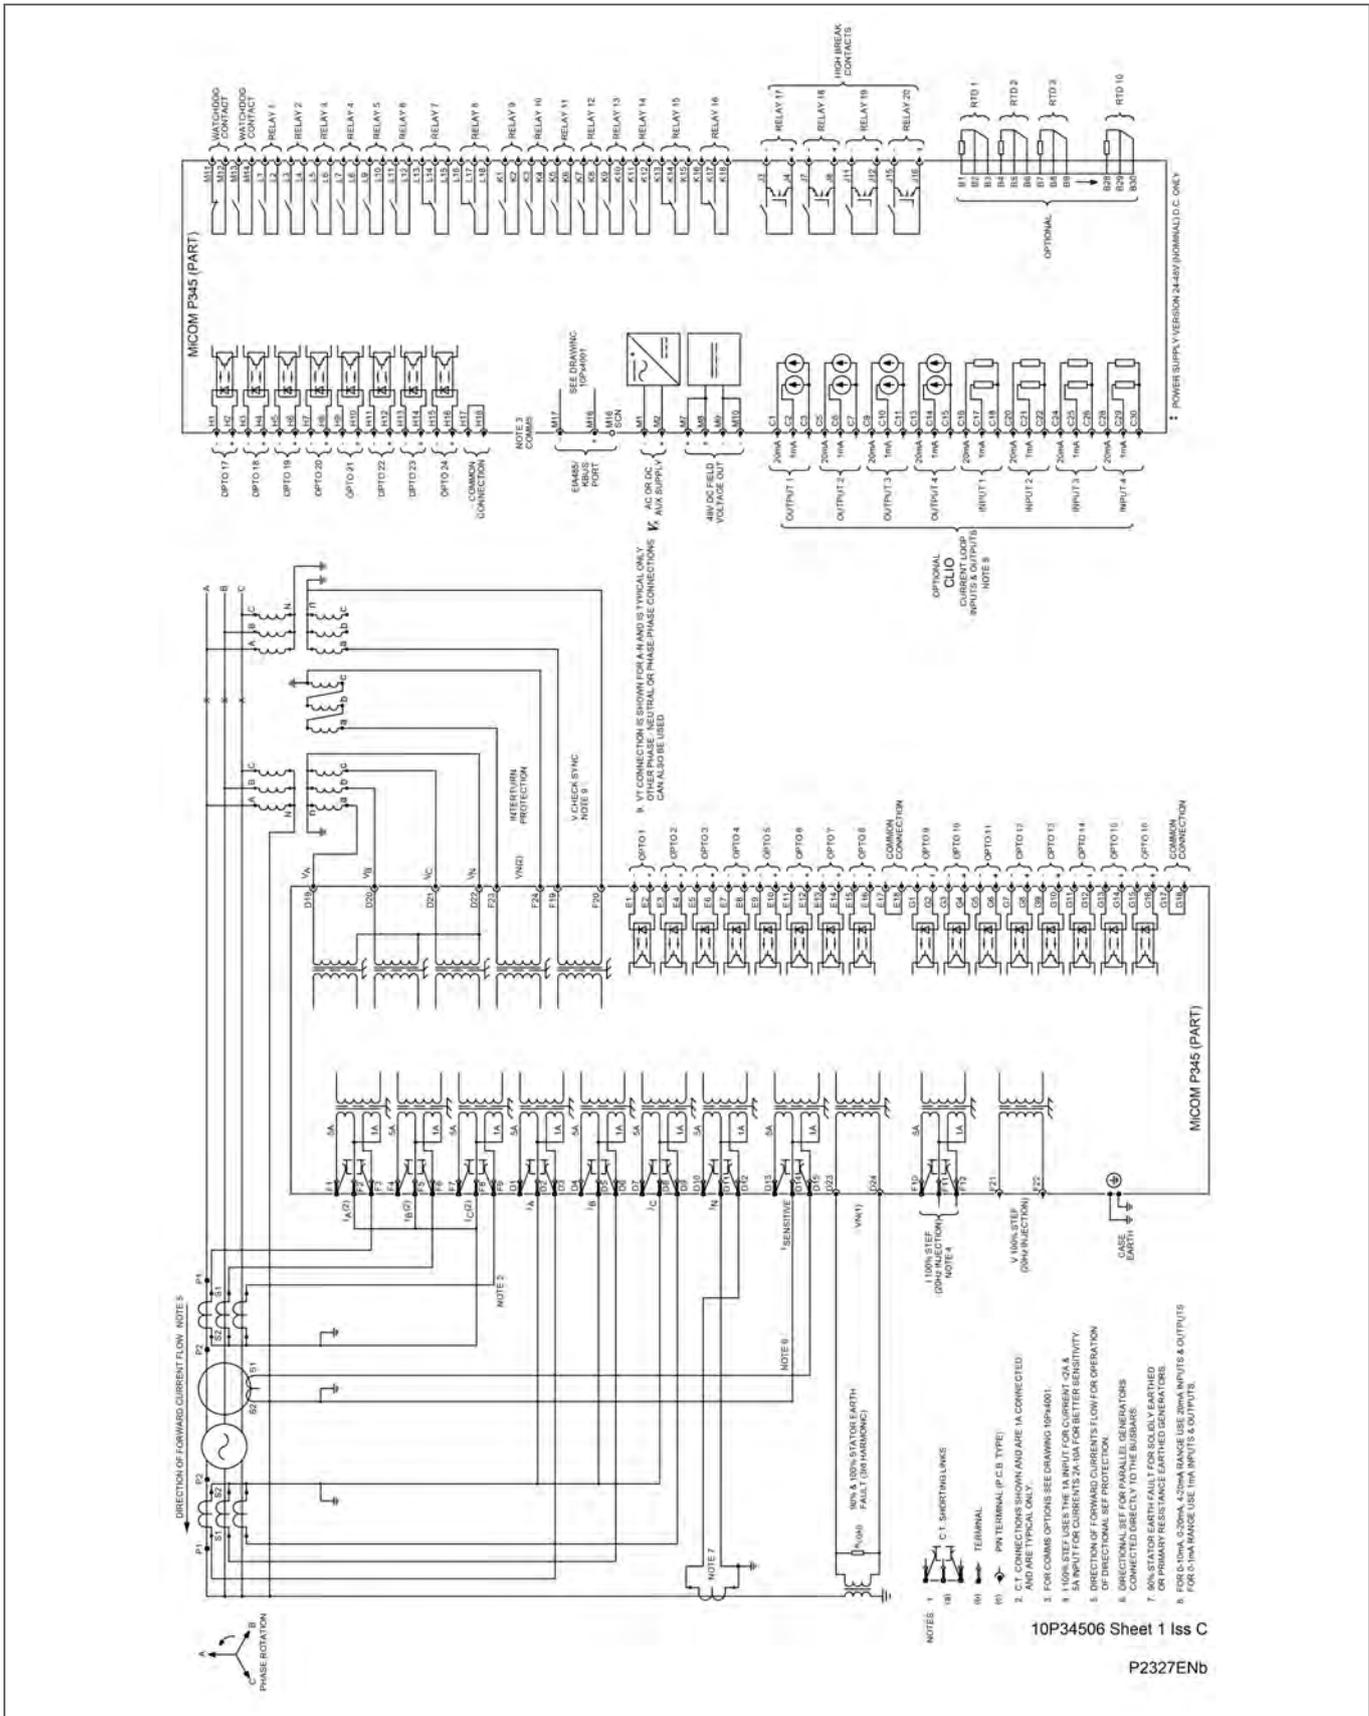

Figure 90 - P345 (80TE) with 90% & 100% (3rd Harmonic) stator earth fault & interturn protection (24 I/P & 20 O/P (4HB) & CLIO & RTD)
- Figure 90 - P345 (80TE) with 90% & 100% (3rd Harmonic) stator earth fault & interturn protection (24 I/P & 20 O/P (4HB) & CLIO & RTD)